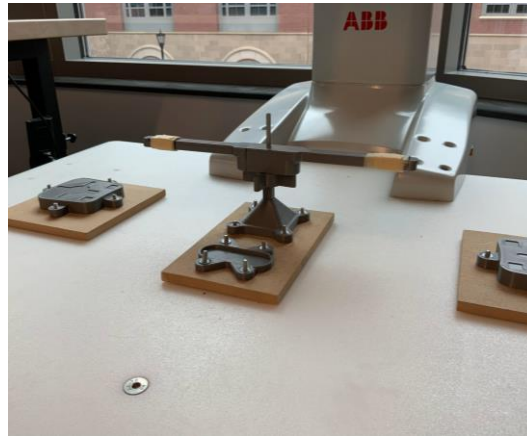

Figure 7. Final solution with the propeller successfully placed at the end position.
- **Task 3 (Propeller):** Participants will be asked to move the 3D printed propeller from its starting position (Figure 6) to its final position (Figure 7) using the IRB 14000. To perform this task, the participants will need to program the robot movement positions using one of two programming interfaces. Pick and placement of the propeller are supposed to be completed using both robot arms working together simultaneously.